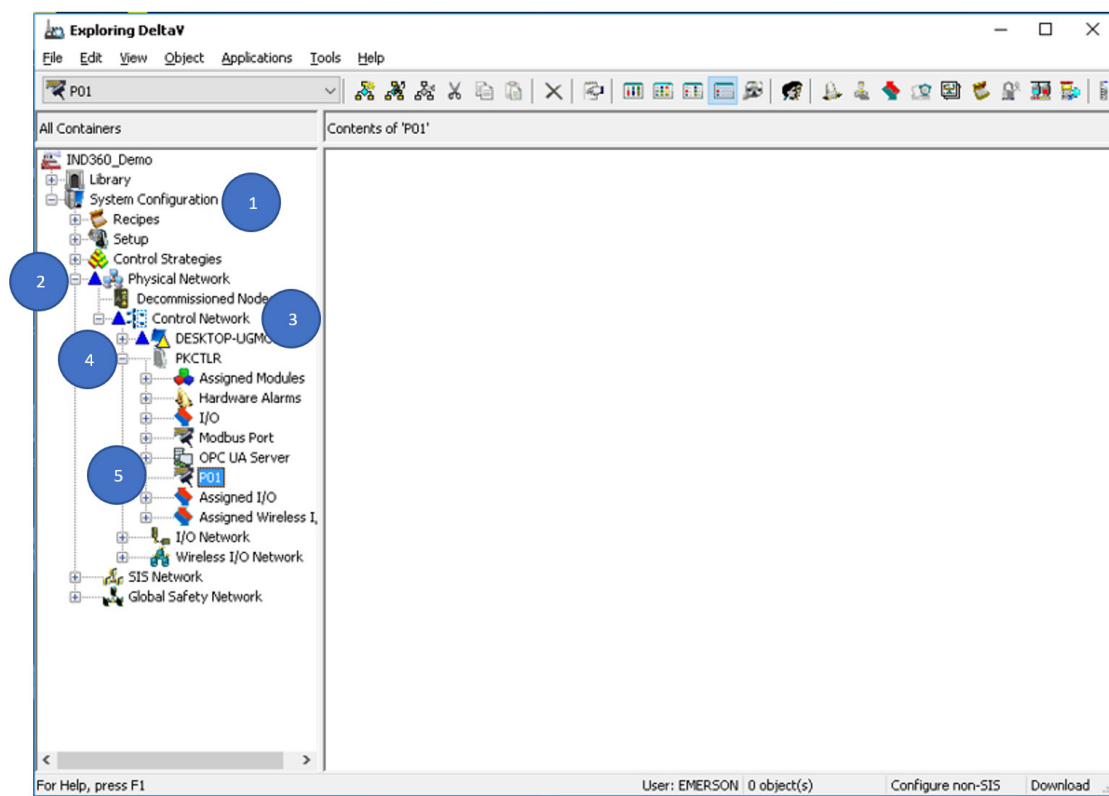

Figure 1-5: Using DeltaV Explorer
3. To navigate the DeltaV Explorer, do the following – the step numbers correspond to the indicators in Figure 1-5.